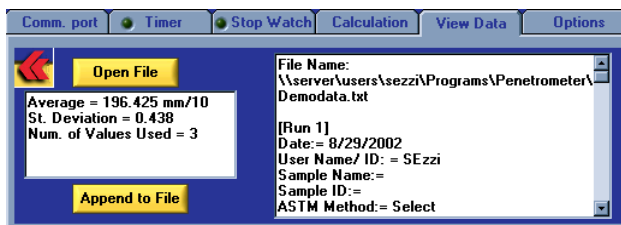

Figure 7: View Data Tab
- 7. View Data Tab.** This tab, shown in Figure 7, provides a quick way to view the contents of a series of test results in a file as well as to determine the average and standard deviation of the entire set of results in that file. Click on the "Append to File" button to add these calculations to the data file.